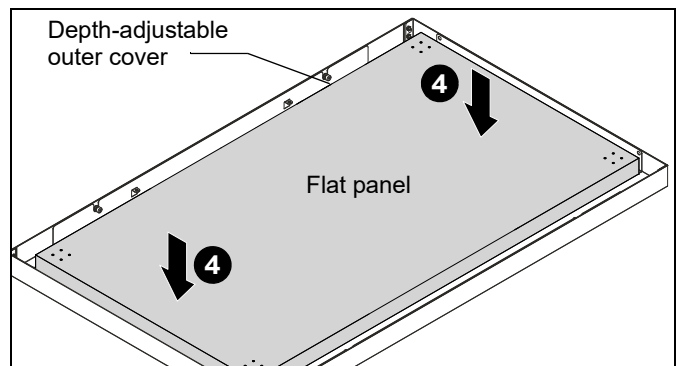

Figure 10
4. Carefully lay flat panel face down into the depth-adjustable outer cover. (See Figure 10)